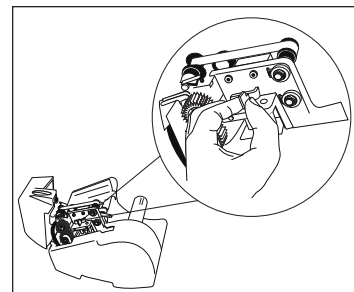

Figure 16
3. Retirez la lame. (Voir Figure 16)